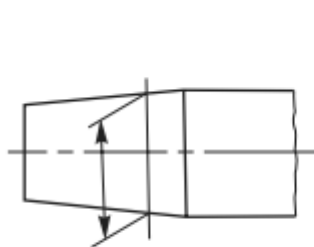

Fig. 2.30
3. Projection lines should be drawn perpendicular to the feature being dimensioned. Where necessary, they may be drawn obliquely, but parallel to each other (Fig. 2.30). However, they must be in contact with the feature.